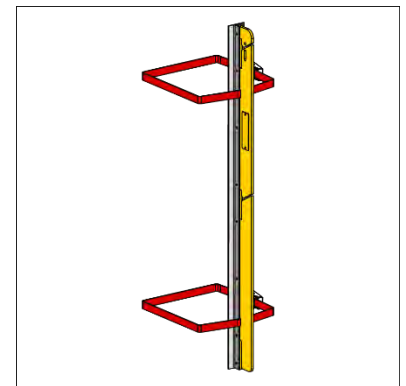

Figure 10
i. Basic Column Post (Fig. 10)